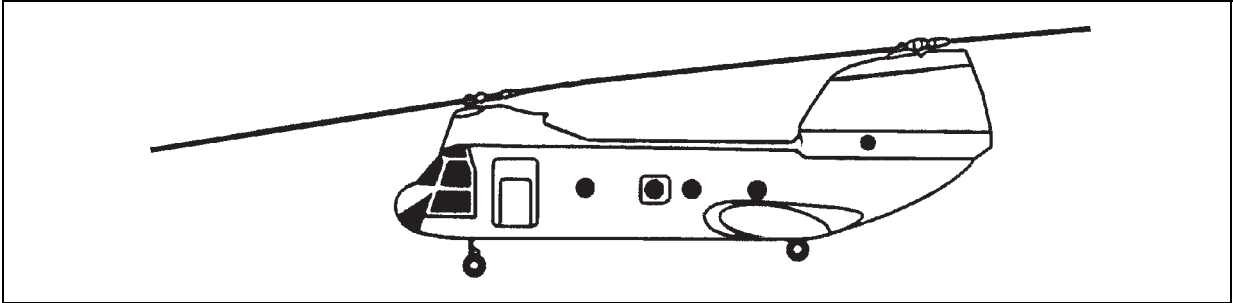
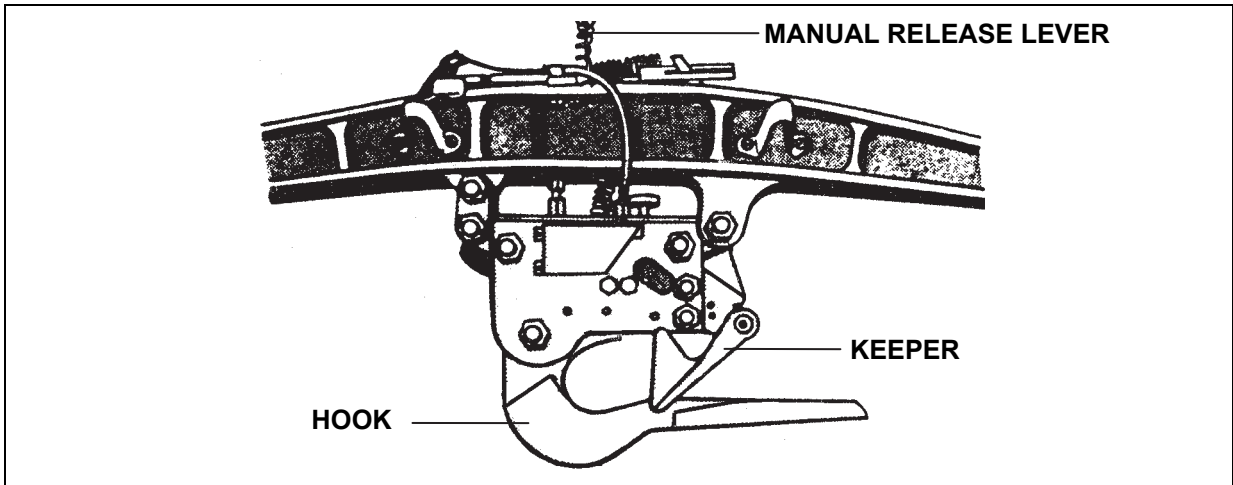

Figure 2-10. CH-46 Sea Knight
Figure 2-11. CH-46 Cargo Hook System
- CH-46A/D/E.** The CH-46A/D/E Sea Knight (figure 2-10) is a twin engine, tandem rotor helicopter manufactured by the Boeing Helicopter Company. The primary mission of the CH-46 is to rapidly deliver combat troops, support equipment, supplies, and perform vertical replenishment (VERTREP). The cargo hook maximum capacity is 10,000 pounds (figure 2-11). The AC6000500 Mod-1 pendant may be used with this helicopter. The cargo hook is normally opened electrically or manually by the aircrew. The manual release cable is mounted on top of the cargo hook and is only accessible to the aircrew.